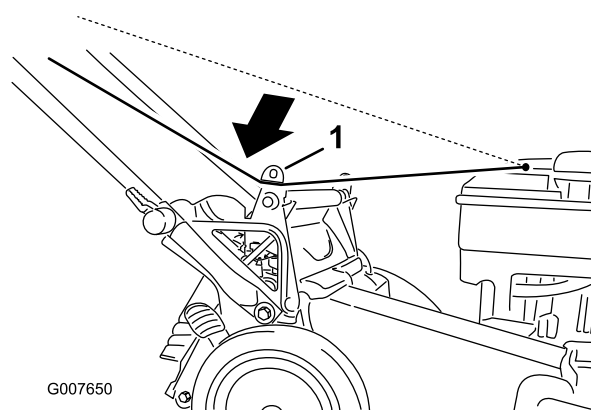

Figure 20
1. Route the starter rope around the lower rope guide (Figure 20).